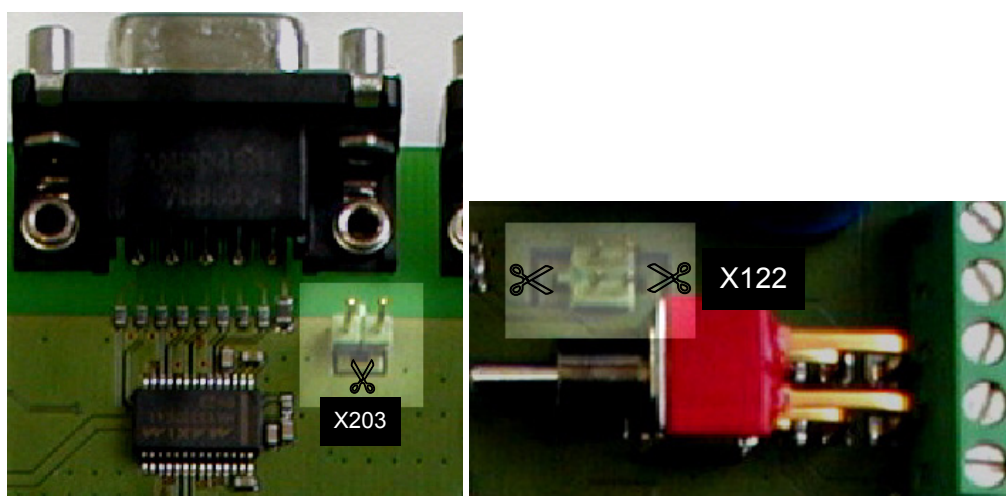

Figure 45: Illustration of positions to cut the trace for jumpers X203 and X122
3) Cut the trace of the jumper at the first use (see also Figure 45).